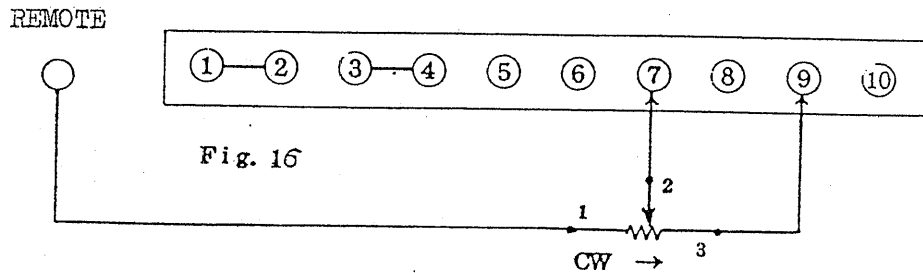
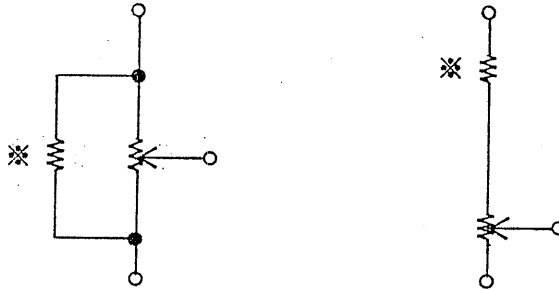

Fig. 16
Fig. 17
- (1) Connect a variable resistor (1.5 k Ω) as shown in Fig. 16.
- (2) When the variable resistor is used at a distance from the device, use a shielded cable in order to guard against degradation of ripple and other characteristics due to external induction noise.
* The device has been calibrated for a variable resistor of 1.5 k Ω . If no variable resistor of this resistance is available, connect a compensating resistor in parallel or series as shown in Fig. 17 in order that the total resistance becomes 1.5 k Ω . When using a parallel compensating resistor, note that the device characteristics may be degraded if the resistance of the variable resistor is 5 k Ω or higher. When